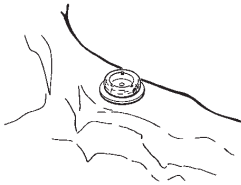

Fig. 4
2. Place a White Block-Out Spacer (contained in Zest order No. 8519 Package) over the head of each Locator Abutment. (Fig. 4) The spacer is used to block out the area immediately surrounding the abutment. The space created will allow the full resilient function of the pivoting metal denture cap over the Locator Black Processing Replacement Male.